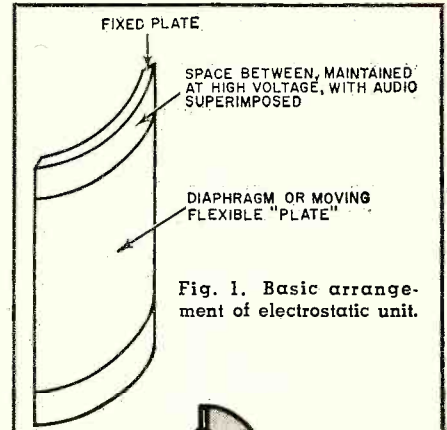

Fig. 1. Basic arrangement of electrostatic unit.
There are three basic types of tweeter one can consider here. The electrostatic, the direct cone radiator, and the compression driver. These are shown in Figs. 1, 2, and 3. There are two bases for comparison: (1) the smoothness of frequency response; and (2) the directional pattern of the radiation.